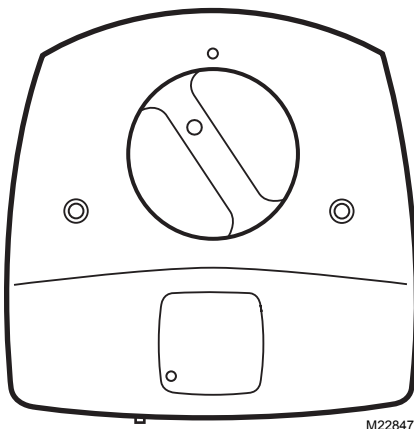
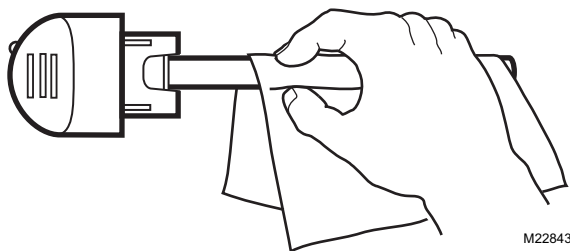

Fig. 4. Insert lamp handle into base unit.
Fig. 5. Use cloth to wipe fingerprints from glass.
11. Insert the lamp handle into the base unit with the lamp light indicator at the eleven o'clock position (left of the raised button on the unit cover). See Fig. 4. If you touch the lamp glass with your hands, use a cloth to wipe fingerprints from the glass. See Fig. 5.
- Insert the lamp handle into the base with the lamp light indicator at the eleven o'clock position. Continue pushing and gently rotating counterclockwise until the lamp handle inserts fully into the base. See Fig. 4.